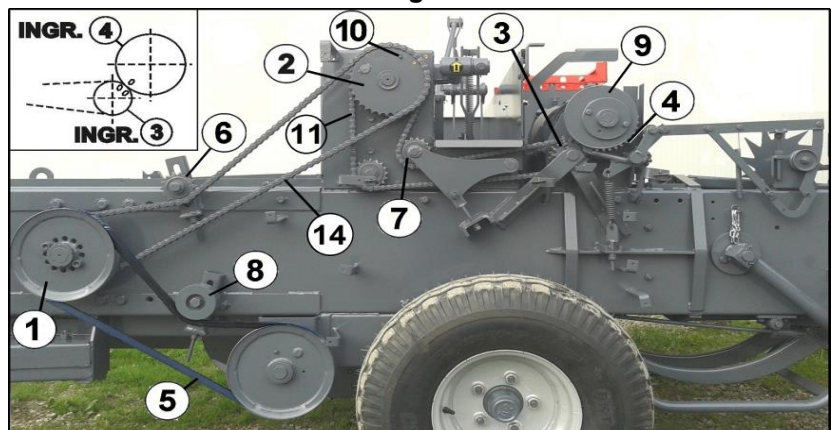

Fig. 12
It can be adjusted using the tightening device (no. 8 Fig. 12).
This bolt (no. 10 – Fig. 12) is designed to protect the various parts of the binder in the event of abnormal resistance in the movement of the binders or upstroke of the needles.
*If an iron wire or 3-wire binder is used, this safety bolt may be replaced with a $\varnothing 6$ class 8.8 bolt – R = 80 kg/mm² placed at a reduced distance with respect to the rotation center of gear 2 – Fig. 12.